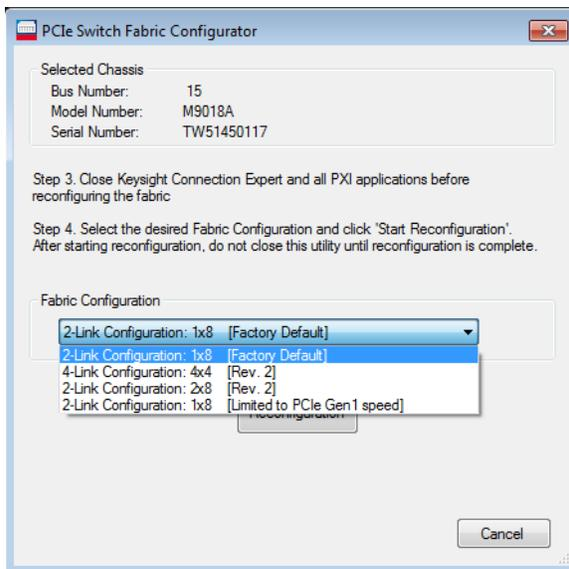

Figure 65 Fabric Configuration selection dialog
- 3 The **Fabric Configurator** selection dialog is displayed next as shown in Figure 65. To change to the 2x8 PCIe link configuration, use the Fabric Configuration pull down menu to select **2-Link Configuration: 2x8**, and then click **Start Reconfiguration**.